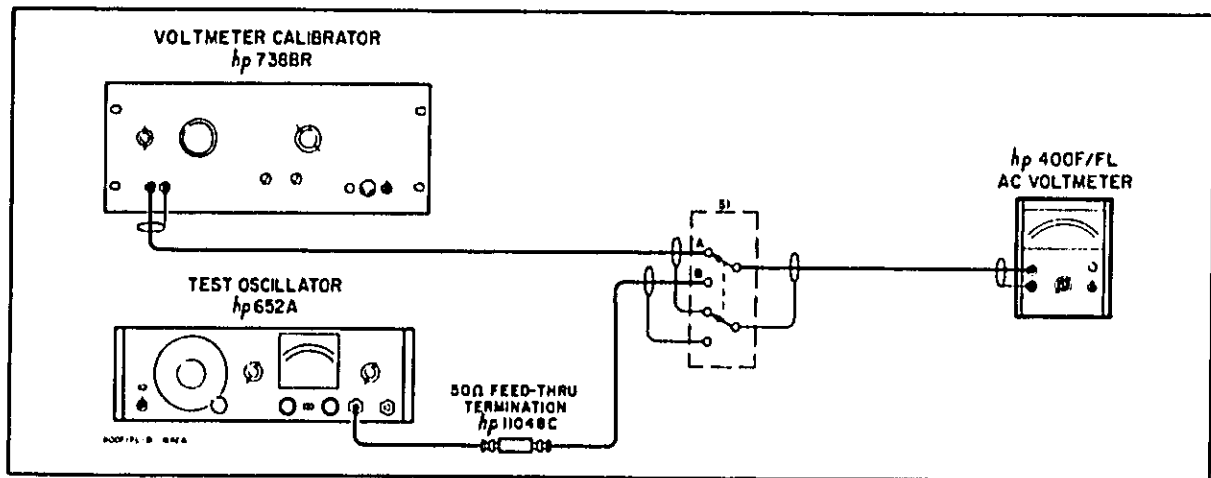

Figure 5-1. Accuracy and Frequency Response Test Setup.
5-10. Figure 5-1 shows the test setup for using the -hp- 652A and -hp- 738BR combination. If the -hp- 3320B is used, it directly replaces the -hp- 652A in Figure 5-1.
- a. Connect the voltmeter calibrator, test oscillator, and 50 ohm termination to the Model 400F/FL as shown in Figure 5-1. An external switch, S2, may be used to facilitate switching from one test instrument to the other.
5-16. After verifying the 400F/FL full scale calibration with the accuracy and frequency response tests, check the range tracking of the instrument with the following procedures. Use the test setup shown in Figure 5-1 for the range tracking check.
5-32. The following procedures are used to adjust the gain of the meter amplifier on two voltage ranges at five different frequencies. Proper gain adjustments will assure accurate meter indications over the entire voltage and frequency range of the instrument. Use the test setup shown in Figure 5-1 for the meter calibration.